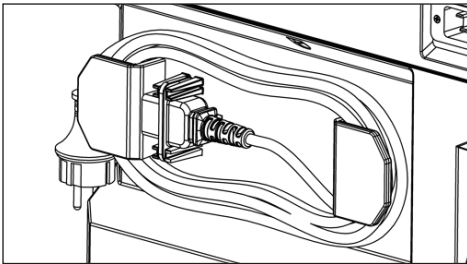

Fig. 6: Storage position of the cable
- ▶ Store the cable in the storage position (Fig. 6). Secure the plug with the cable clip provided.